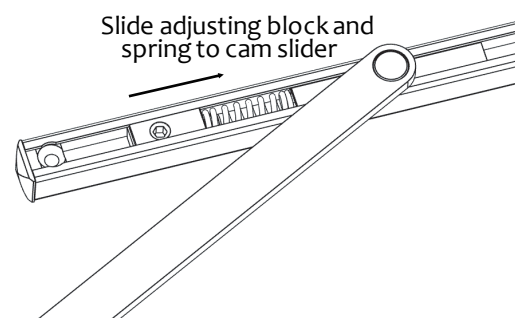

Figure 7
- Slide the adjusting block and spring to touch with the cam slider. (Figure 7)